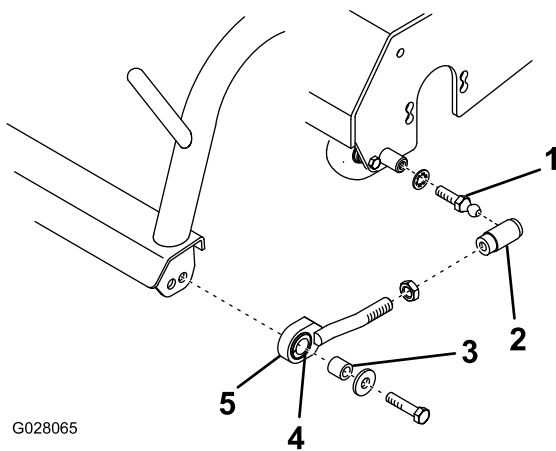
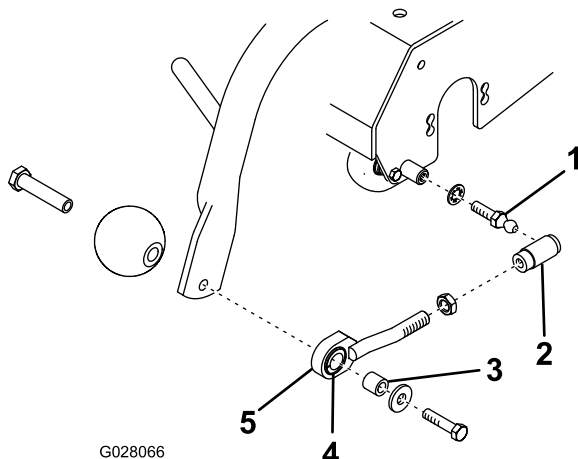

Figure 5
Figure 6
- B. Assemble a jam nut and ball joint receiver onto each pull link assembly as shown in Figure 5 or Figure 6.
- C. Mount a pull link assembly to each end of the carrier frame with a spacer, washer, and screw (Figure 5 or Figure 6).
- D. Install a ball stud and lock washer to each end of the tri-roller (Figure 5 or Figure 6).
- F. Slide the sleeve back on each ball joint receiver and hook them onto the ball studs (Figure 5 or Figure 6).